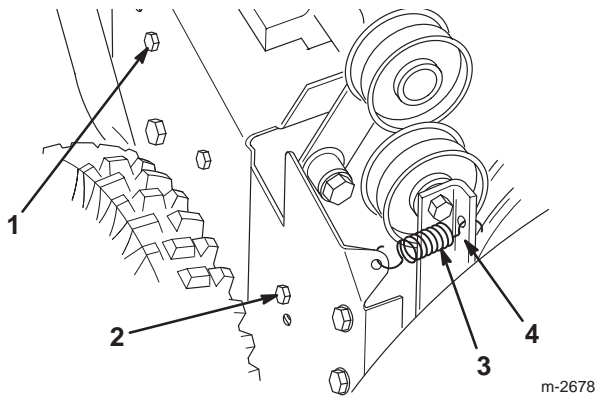

Figure 30
2. Bolt (3)
4. Loosen the auger brake arm assembly by loosening the rearmost screw and removing the front screw (Fig. 30).
5. Remove the idler pulley spring (Fig. 30). Let the brake arm assembly hang free but out of the way.
4. Loosen the auger brake arm assembly by loosening the rear screw and removing the front screw that fasten the auger brake arm assembly to the frame (Fig. 30).
5. Remove the idler pulley spring (Fig. 30). Let the brake arm assembly to hang free but out of the way.